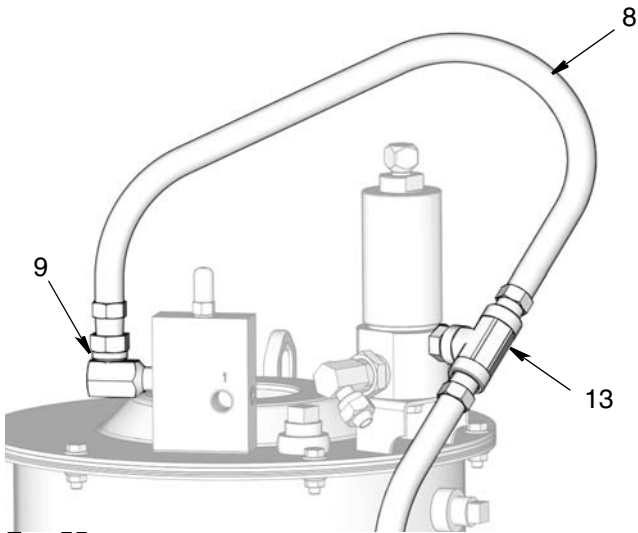

FIG. 26
12. Install fill hose (8) as shown in FIG. 26 - between the elbow fitting (9) and the tee fitting (13).